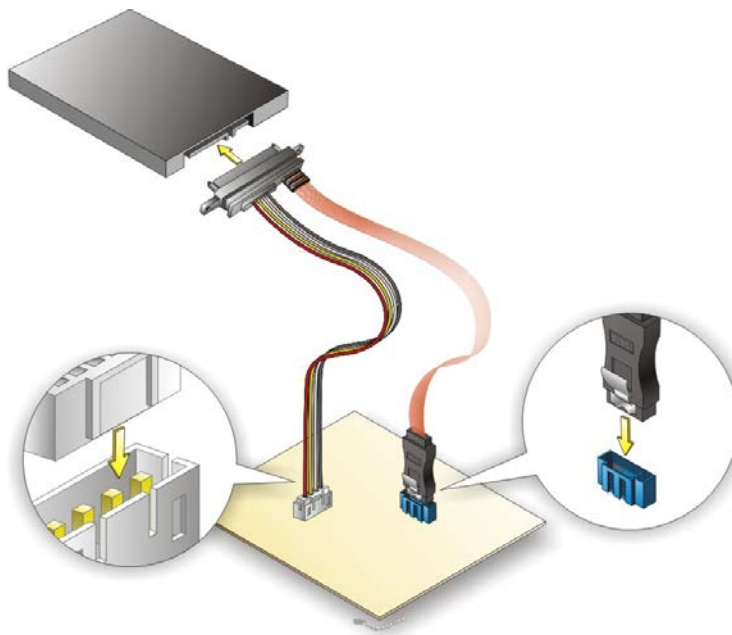

Figure 4-15: SATA Drive Cable Connection
Step 2: Insert the cable connector. Insert the cable connector into the on-board SATA drive connector and the SATA power connector. See **Figure 4-15**.
Step 3: Connect the cable to the SATA disk. Connect the connector on the other end of the cable to the connector at the back of the SATA drive. See **Figure 4-15**.